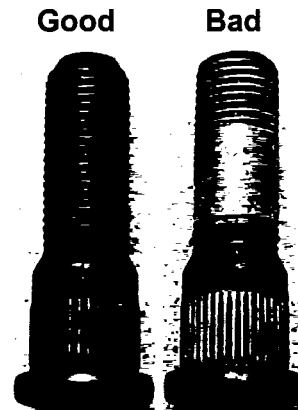

Fig. 4
Inspect the thread area on all six (6) of the wheel studs and the lug nuts. The threads on the wheel studs should be clean and have no signs of wear from aluminum rim contact. The lug nuts should not exhibit any signs of wear or damage. If any of the wheel studs or lug nuts, show any signs of wear, or any of the threads are embedded with aluminum, all six (6) of the wheel studs and lug nuts on that hub need to be replaced. If replacement parts are required, please contact the Jayco Customer Service department at (800) 283-8267 for authorization and expedition of the required parts. Upon receipt and installation of the replacement wheel studs and the lug nuts, remove the existing wheel studs and lug nuts from the hub and mark them "damaged" and hold for claim processing (Fig. 4).